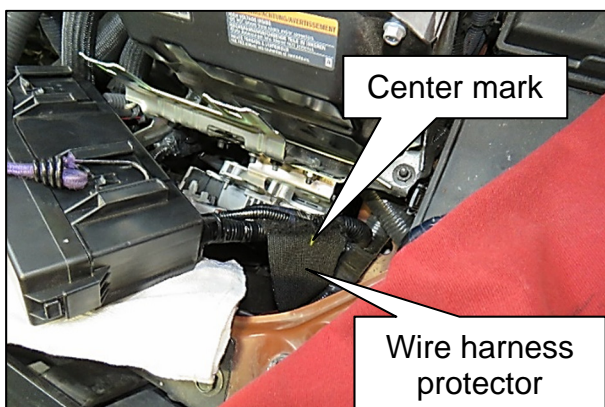
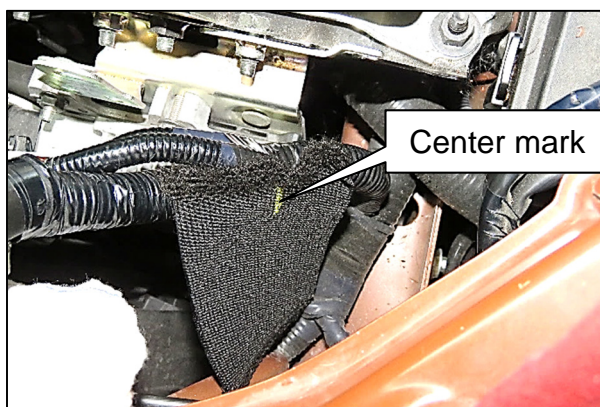

Figure 13
Figure 14
11. Align the center mark on the wire harness protector with the junction of the smaller wire harness branches from the main wire harness, as shown in Figure 13 and Figure 14.